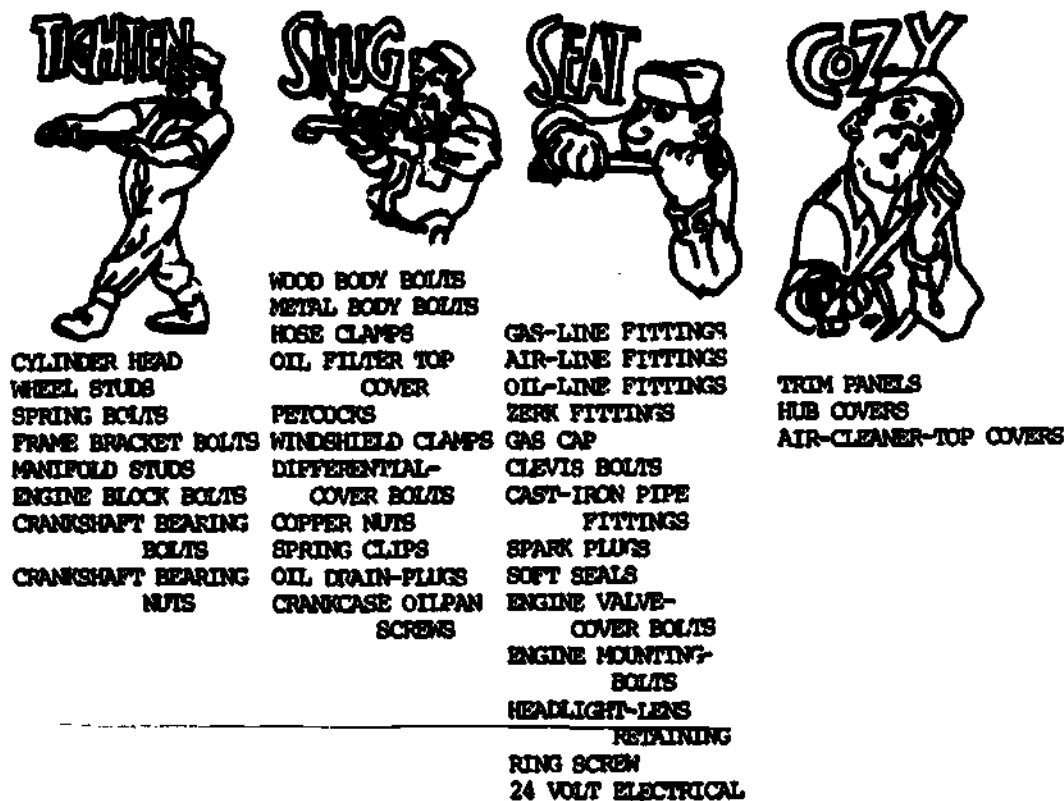

Fig 2-46. Guide for standard of tightness
- What does the word tighten mean? Since the word tighten means different things to different people, and because the human element is involved, let's discuss it. We have operators that are tall or short, fat or skinny, strong or weak. We also have all kinds of wrenches. So we end up with bolts falling out because they are too loose and others that snap off from being too tight. This would indicate we have many standards of tightness or that there are differences in operation and tools. As a guide, let's use figure 2-46 and a little common sense.